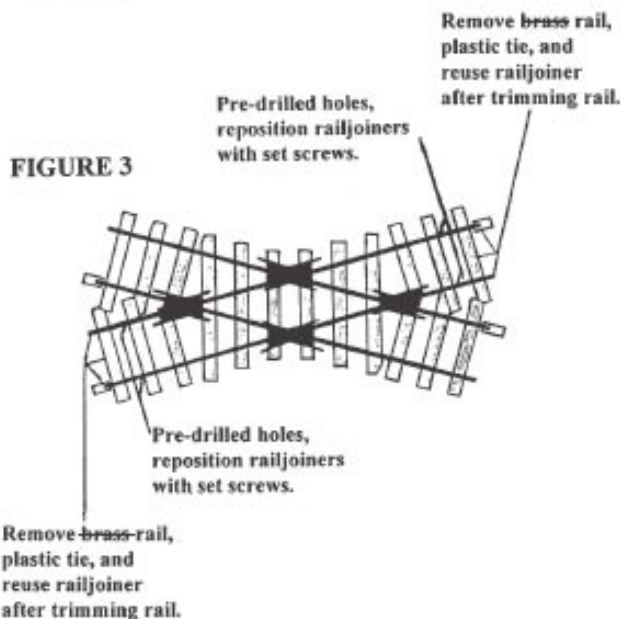

FIGURE 3
5. Set screws (2) are located underneath each track section (all style #'s) encased in wax.
7. Most importantly, by trimming each of 4 rails on one through section of track (see Figure 3) and utilizing the additional pre-drilled holes that are 27.5mm from each rail end to reposition rail joiners with set screws, the ART-11300 CROSSING can be easily used in any existing track plans requiring similar CROSSING TRACKS of other manufacturers.